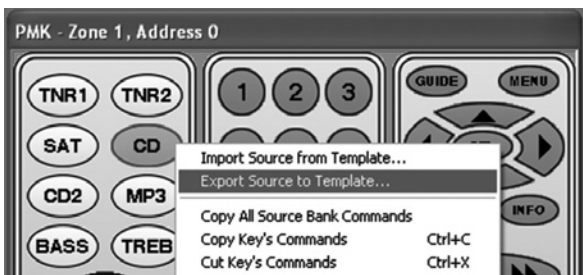

Figure 26 Exporting a Source To a Template
2. Right-click the desired Source button and then click “**Export Source to Template...**” from the pop-up. See Figure 26.